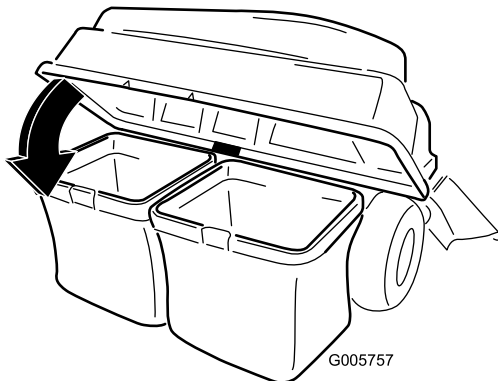

Figure 18
- Lower the bagger top onto the bag (Figure 18).